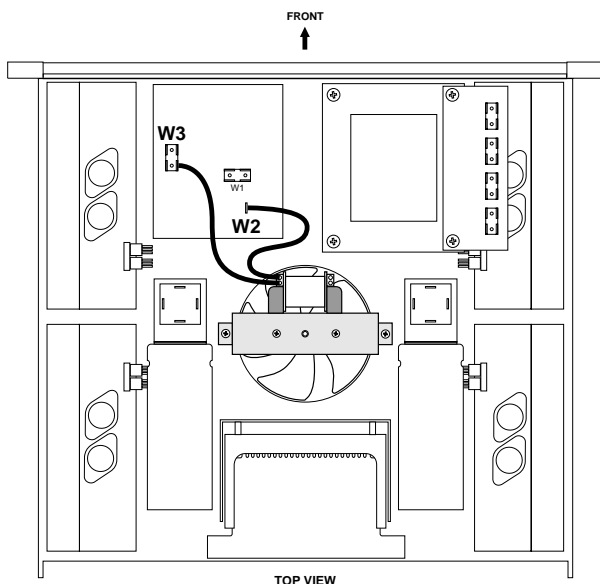

Fig. 8.2 Cooling Fan Option
6. Attach the fan assembly to the subchassis (Figures 8.2 and 8.3) with the two torx head screws supplied in the kit (a torx nut driver is required). The fan motor assembly should be positioned with the wires facing the front of the amplifier.
7. Connect a wire from the fan motor to jumper block W3 and the remaining wire to W2 as shown in Figure 8.2. (It doesn't matter which wire goes to which location because the fan uses an AC motor.)